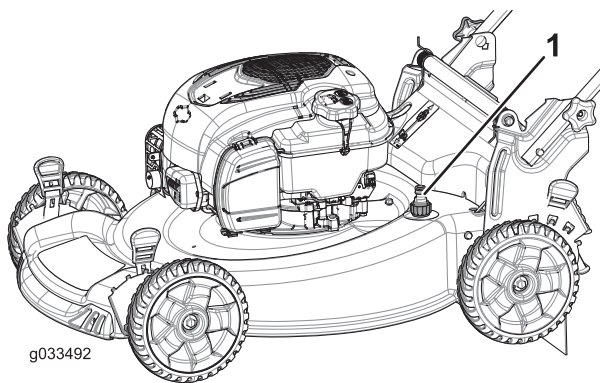

Figure 24
5. Attach a garden hose that is connected to a water supply to the washout port (Figure 24).